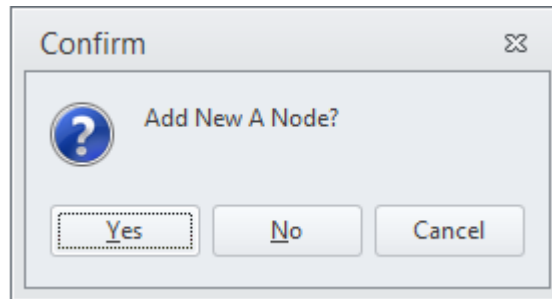

Figure 79 Add new node
- 9) The following window in Figure 79 will appear if new a node is added (i.e. if the link does not start and end in existing nodes):